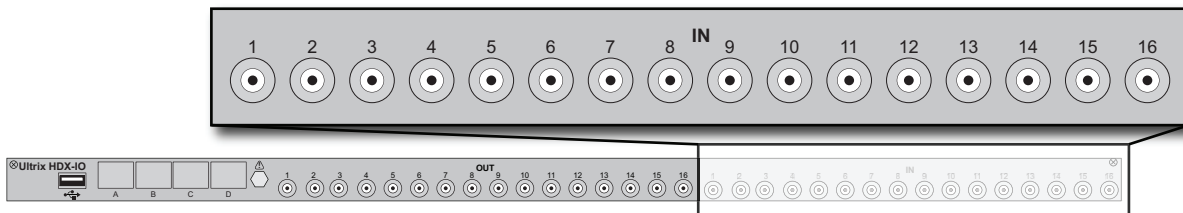

Figure 52 Ultrix Rear Panel — SDI Input BNC Mapping for an ULTRIX-HDX-IO Blade
**Figure 52** outlines the input cabling designations for an ULTRIX-HDX-IO blade. The input BNCs are located on the right side of each blade.